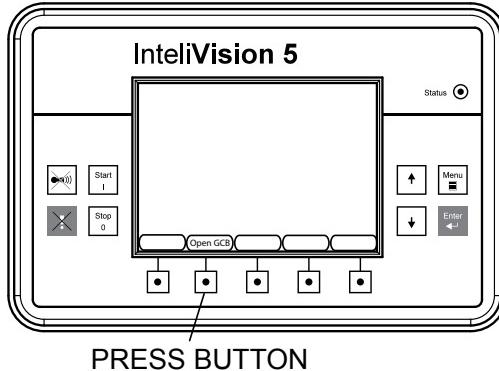

Figure 30. Generator Circuit Breaker (Open)
- Press the GCB control button on the controller (Figure 30) to open circuit breaker.
- Place the main circuit breaker (Figure 30) in the **OFF** position.